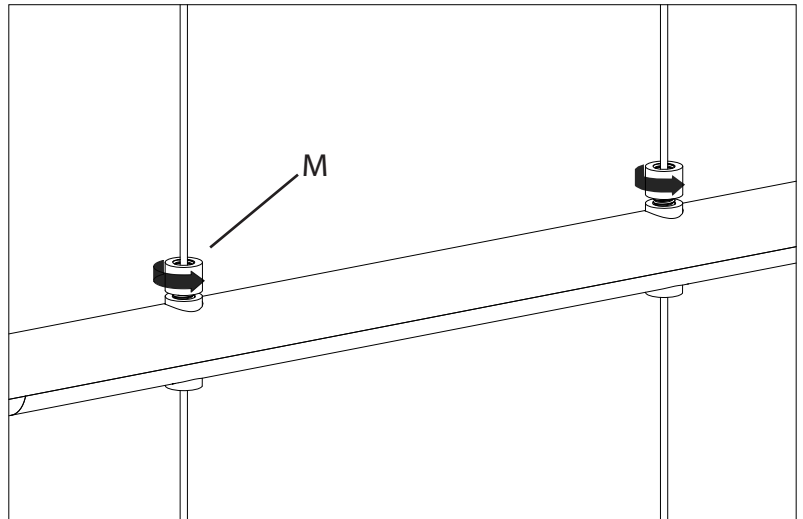
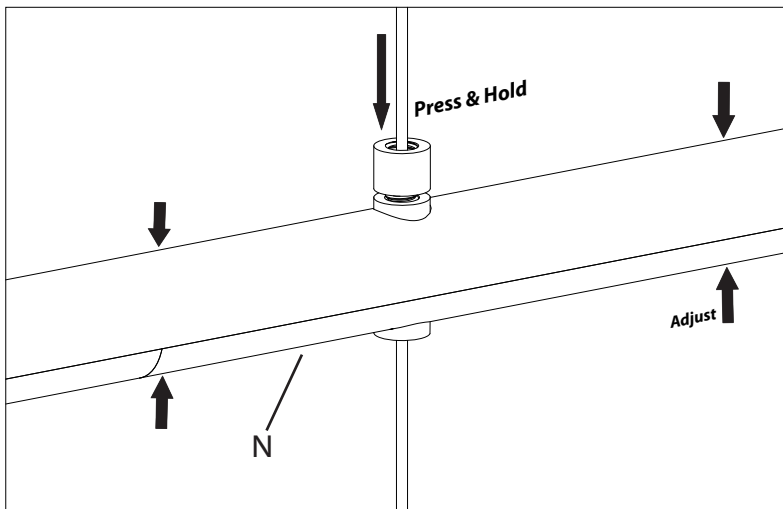

Fig. 2
Fig. 3
7. Loosen the caps on the cable grippers (M) (Fig. 2). Press and hold the cap and feed the cable through the cable gripper. Adjust the height of the arm (N) up or down to desired position. Release the gripper to set cable position and retighten the cap (Fig. 3). Repeat for each remaining arm.